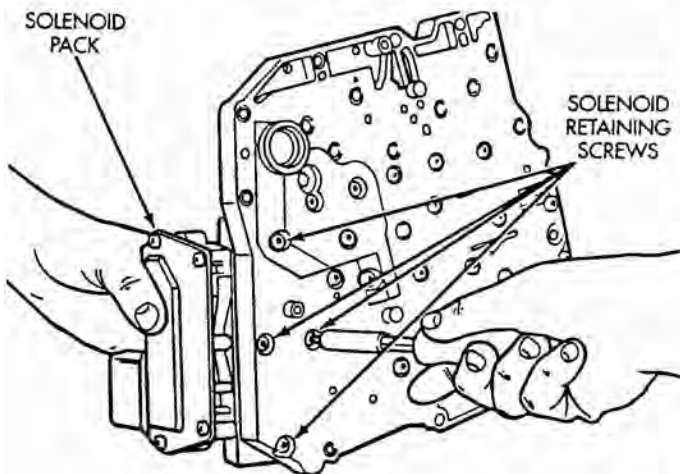

Fig. 10 Solenoid Pack Location
(2) Remove Manual Valve Lever Position Sensor (MVLPS) and manual shift lever.
(3) Remove solenoid pack from valve body (Fig. 10).